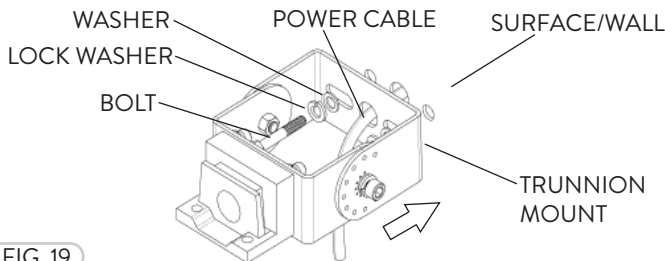

FIG. 19
- 2 Install the Trunnion Mount to the Surface/Wall while placing the Power Cable through the Trunnion Mount. Mount with the appropriate hardware (Fig. 19).